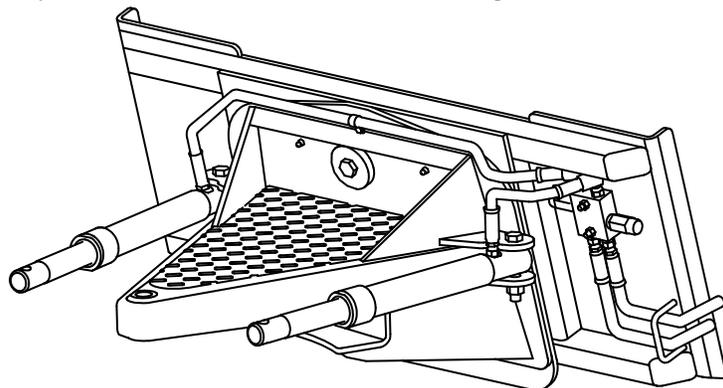

Figure 1. Plow Box Assembly
- a. Remove the Plow Box assembly, Pushframe Attachment Bar, bags and other parts from the plow box and organize their contents by referencing the packing list. The plow box assembly should look similar to that shown in figure 1.